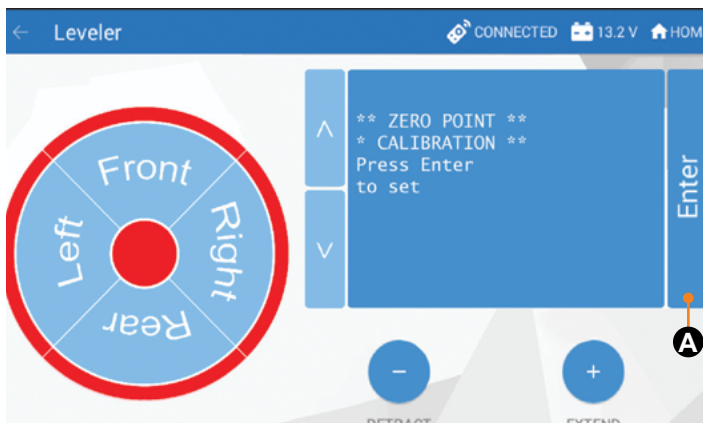

Fig.52
5. The touch panel will present options for further leveling of the trailer if needed. The screen will also state “ZERO POINT CALIBRATION - Press Enter to Set” (**Fig.52**).